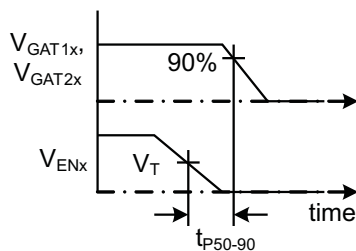

Figure 2. t_{p50-90} Definition
(4) See Figure 2 for timing definition.
(5) These parameters are provided for reference only, and do not constitute part of TI's published device specifications for purposes of TI's product warranty.